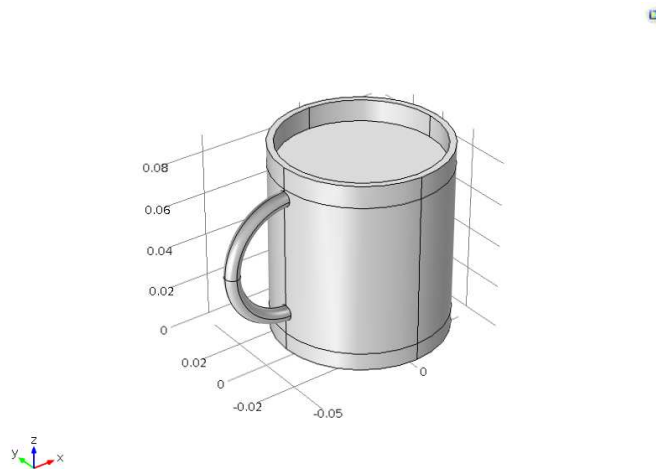

ABBILDUNG 4.1. Geometry (spatial domain) of the coffee cup that is filled with a fluid (coffee)
- The complete geometry is shown in Figure 4.1.